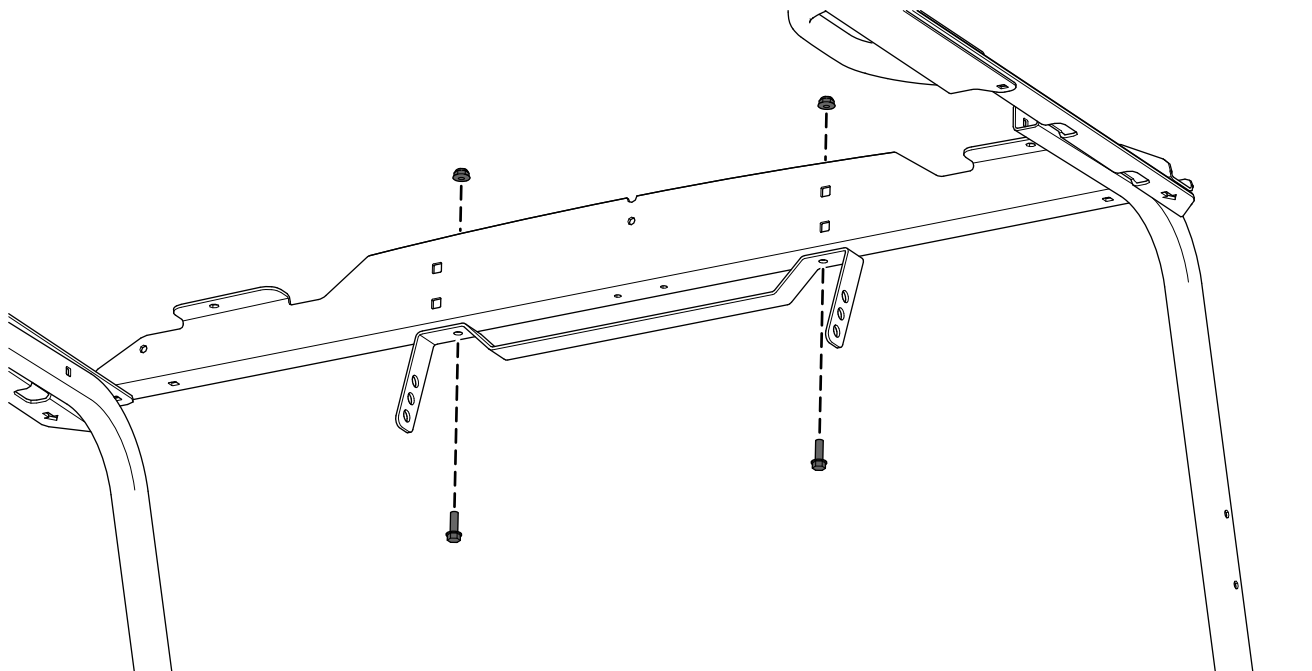

Figure 4
1. Secure the mirror mount to the front support bracket using 2 hex-washer head bolts (1/4 x 3/4 inch) and 2 locknuts (1/4 inch) as shown in Figure 4.